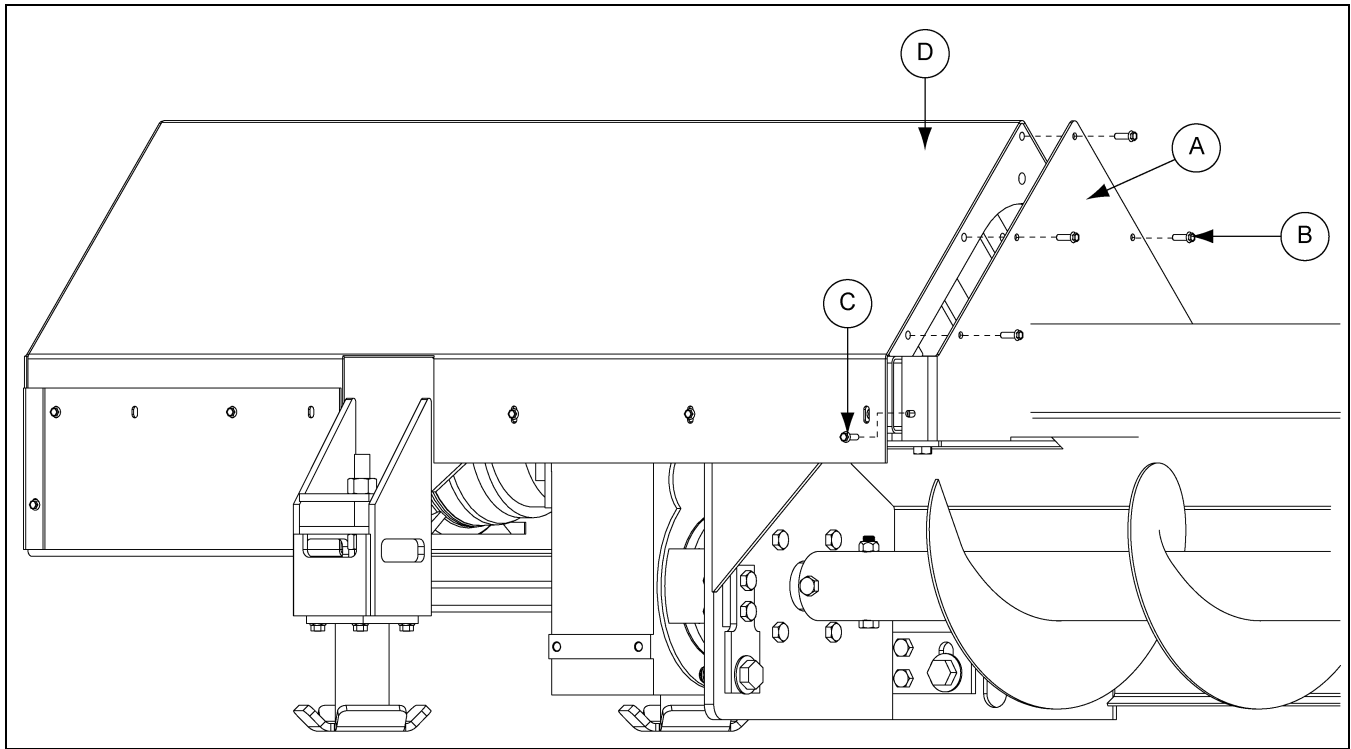

Figure 7AG
1. Attach auger motor front cover (A) to the auger motor hood (D) and install with hex bolts (B).
2. Install hex bolts (C) and nuts to each side of the auger motor hood (D). (See Figure 7AG.)